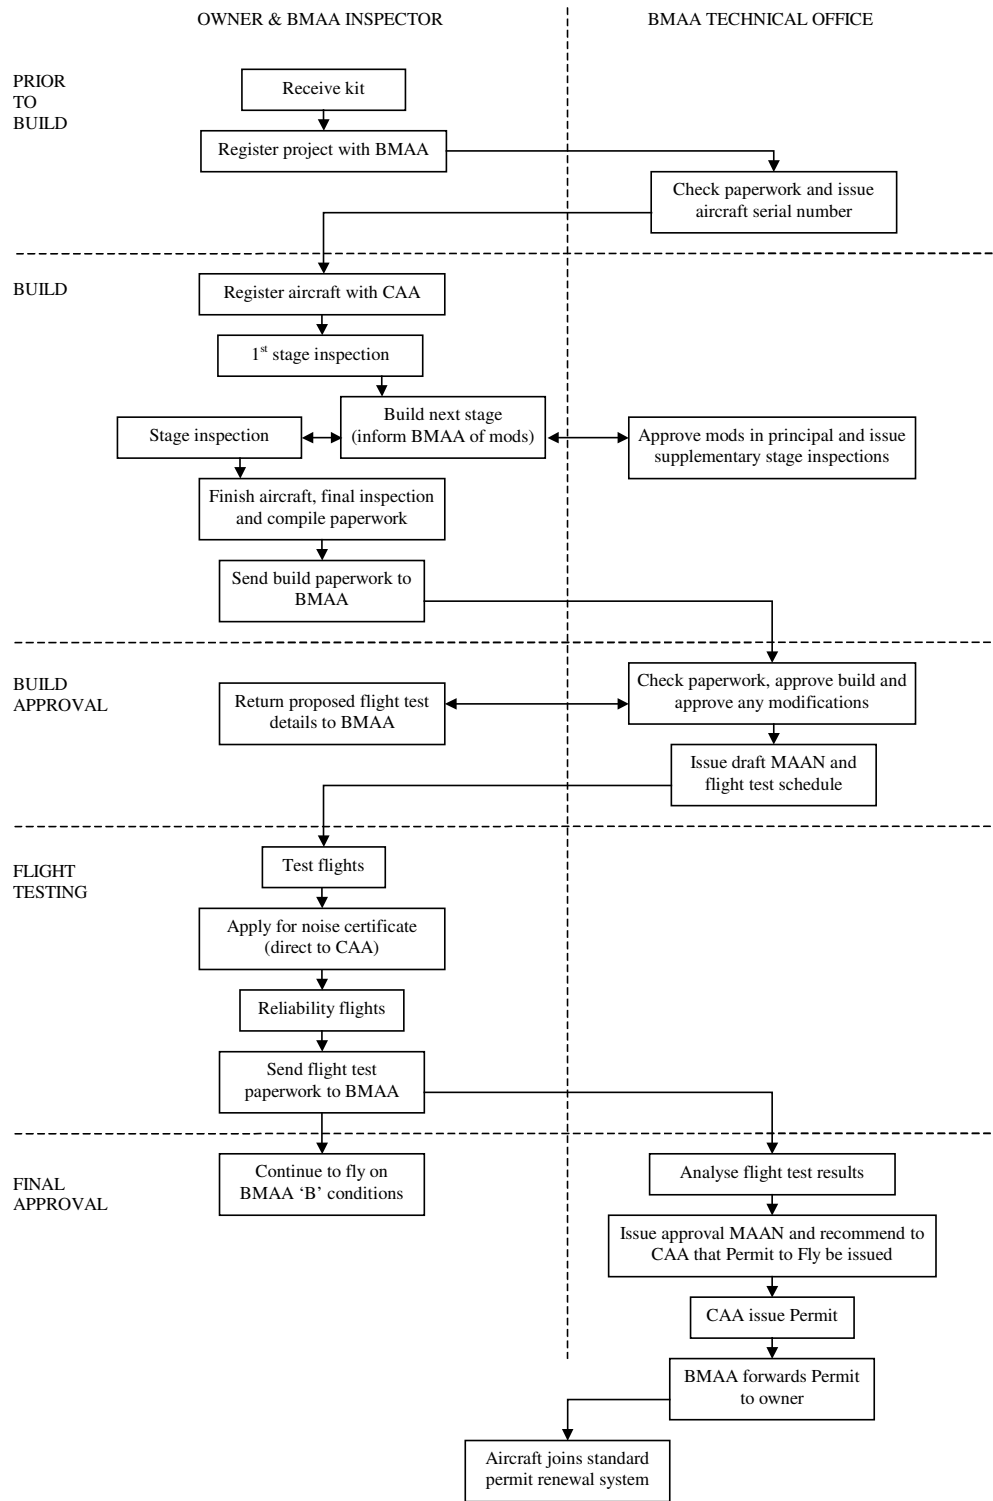

Figure 1: flowchart outlining BMAA 'series' amateur build aircraft procedure
- 2.2 The build procedure is shown in flowchart form in figure 1. It breaks down into five distinct phases: